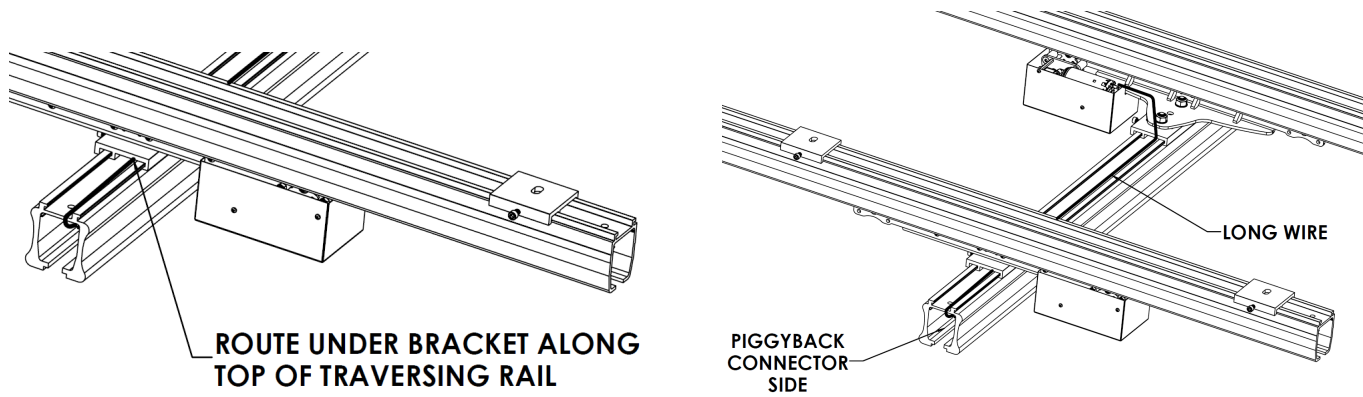

Figure 64: **Long Wire Placement**
11. On the traversing (X/Y) track, route the long wire across the top of the traversing track, beneath the gantry bracket (Figure 64).